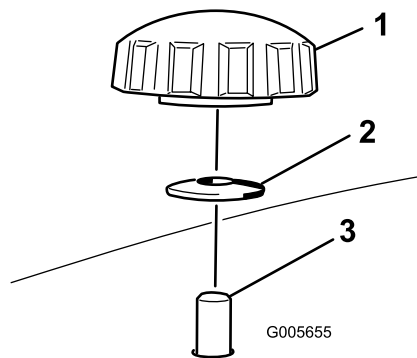
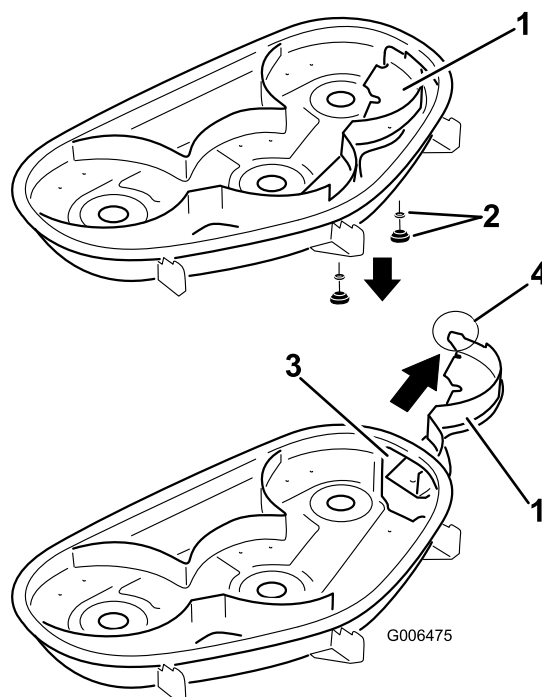

Figure 18
Figure 19
5. Remove the right baffle and lower the grass deflector over the discharge opening as shown in Figure 19 and Figure 18.
4. Remove the 2 knobs and curved washers that secure the right baffle to the mower as shown in Figure 18.
4. Slide the right baffle through the discharge opening and secure it using 2 knobs and curved washers (cupped side facing the mower) as shown in Figure 18 and Figure 19.